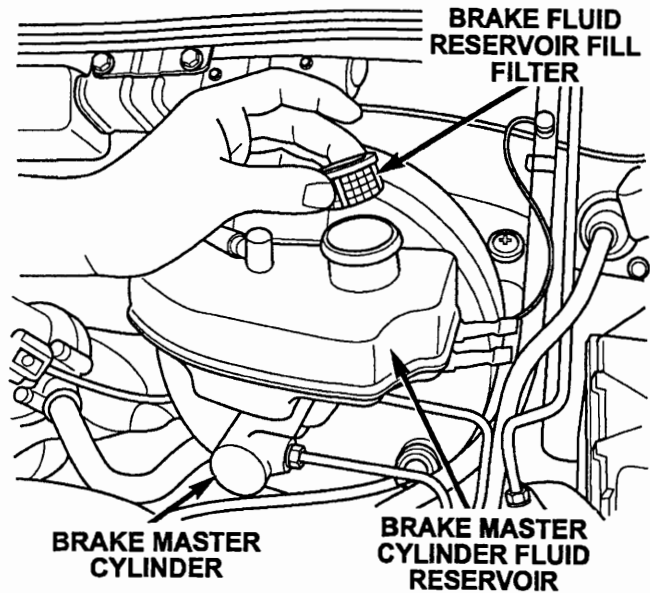

Figure 1
2. Remove the brake master cylinder reservoir cap and filter (Figure 1).